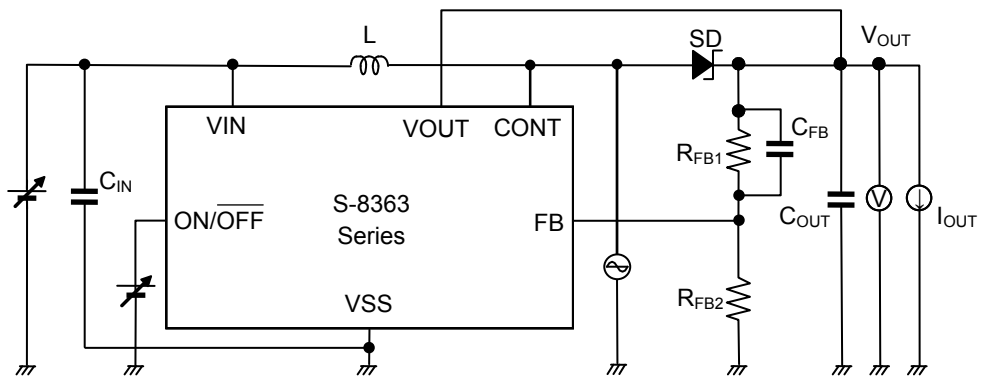

Figure 6
- \*1. This is the guaranteed value measured with external parts shown in “Table 6 External Parts List” and with test circuits shown in Figure 6. The operating start voltage varies largely depending on diode’s forward voltage. Perform sufficient evaluation with actual application.